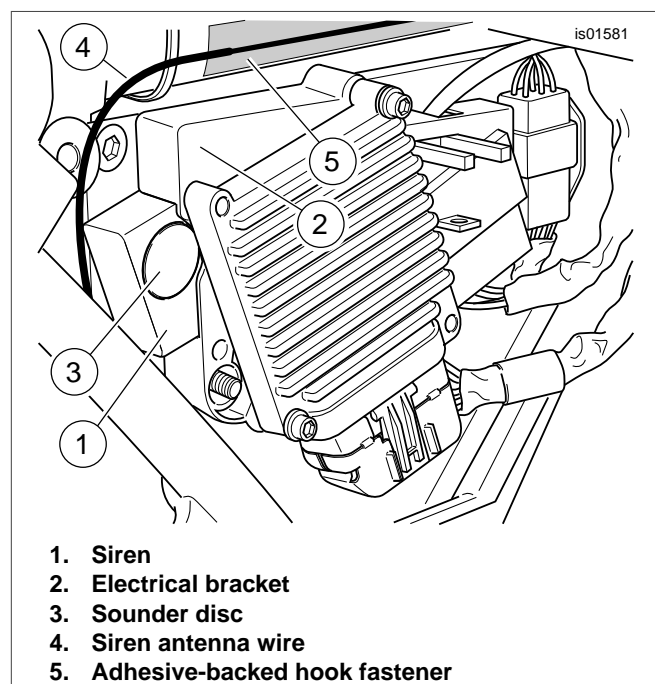

Figure 14. Siren and Electrical Bracket Installed (2002-2007 FL Touring Models)
7. See Figure 14. Install the electrical bracket assembly with siren back onto the studs on the side of the battery box. Install the two flange nuts onto the studs. Tighten the nuts to 36-48 **in-lbs** (4.1-5.4 Nm).